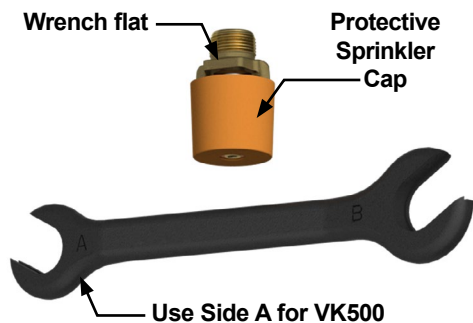

Figure 1: ESFR Pendent Sprinkler Wrench
- D. **Use ONLY sprinkler wrench 10285W/B or 13635W/B (shown in Figure 1) for installing ESFR Sprinkler VK500! With the sprinkler contained in the protective cap, install the sprinkler onto the piping by applying the sprinkler wrench to the sprinkler wrench flats only, while taking care not to damage the sprinkler operating parts.**